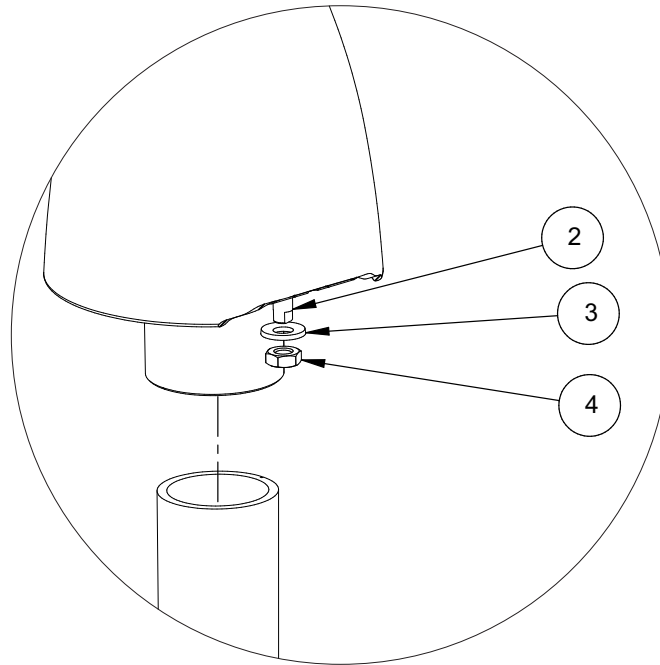

Figure 7.6: Grounding Terminal Assembly
1. Remove the nut (Item 4 in Fig. 7.6) and the safety washer (Item 3).